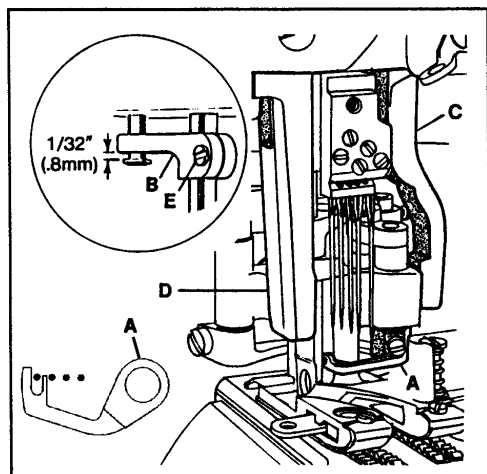

FIG. 20
Remove the presser bar regulating screw and the presser spring. Raise the needle bar to its highest position and remove the retainer. As the foot is slipped under the needles, swing the upper knife into the opening on the right side of the foot and slide the linkage onto the hook driving sleeve. Insert the presser bar through the linkage and into the presser foot shank. Tighten presser foot screw. With the presser bar inserted properly into the presser foot, position the foot left to right so the finger of cover thread carrier (A, Fig. 20) is between the first and second needles. Set presser bar guide (B, Fig. 20 Inset) so foot will not move. Set right presser foot guide (C) and left presser foot guide (D) to maintain setting. Loosen presser bar guide screw (E Fig. 20 Inset) and check to see that foot has vertical freedom with no right to left play, no bind. Put the needle bar in its lowest position, and set 1/32" (0.8mm) above head of presser bar guide stud. Tighten presser bar guide screw (E).
Turn the handwheel in operating direction until link (A, Fig. 20) has traveled fully to the front. There must be a 1/64" (0.4mm) clearance between link (A) and the back of needle bar (B) when link (A) starts to jackknife. Loosen screw (C) and rotate driving sleeve (D) to position link (A). Tighten screw (C).